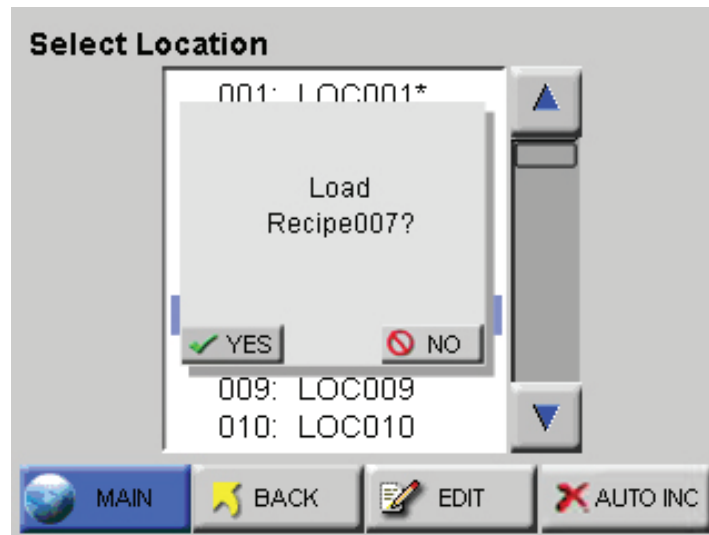

Figure 4-57 Location - Load Recipe
- When selecting a location with a recipe, the user is provided with the option of loading the recipe as shown in Figure 4-57. If the user chooses not to load the recipe, the location can still be used with the current settings.